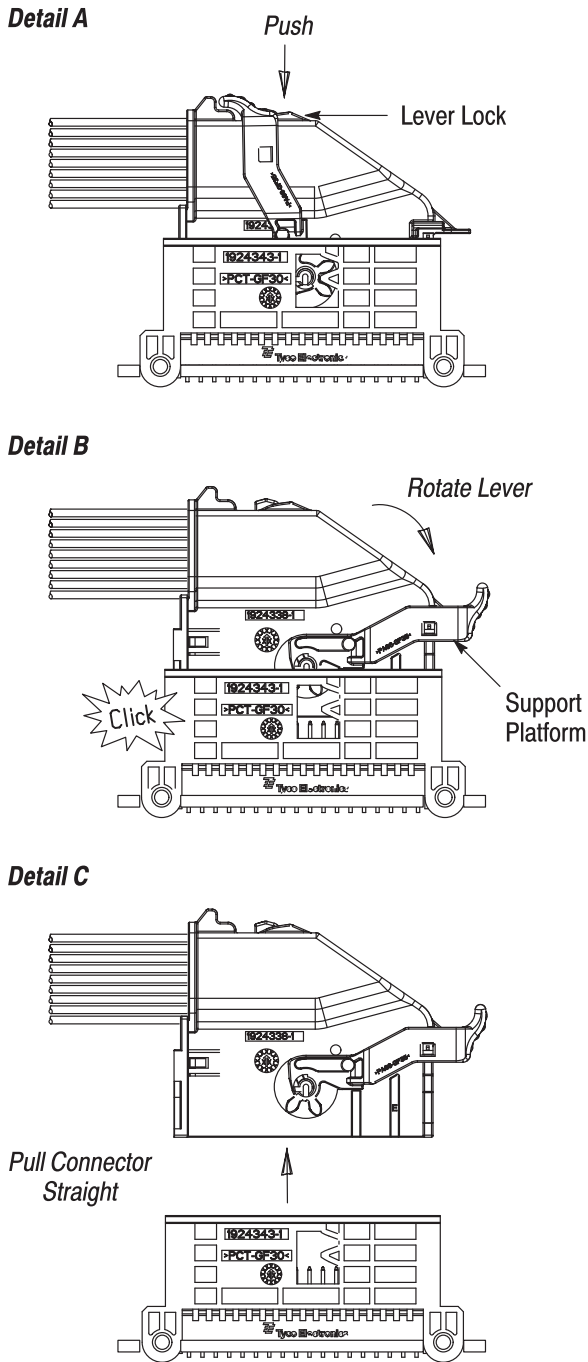

Figure 8
1. Press the lever lock (located on top of the shield assembly). A small screwdriver can be used to press the lever lock. The lock is now released. Refer to Figure 8, Detail A.
2. Rotate the lever until it rests on the support platform. There should be an audible “click.” The lever is now in the OPEN position. See Figure 8, Detail B.
3. Pull the connector straight upward and out of the interface. See Figure 8, Detail C.